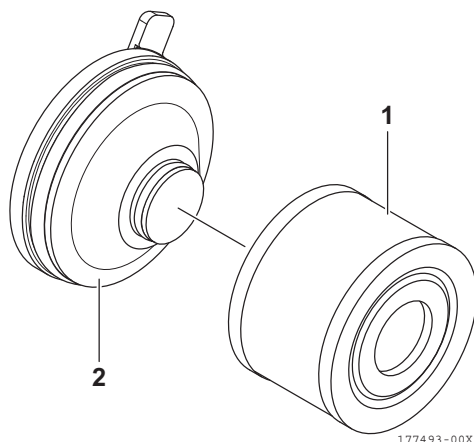

Figure 21
12. Install the new filter cartridge (1, **Figure 21**) to the cover assembly (2, **Figure 21**).